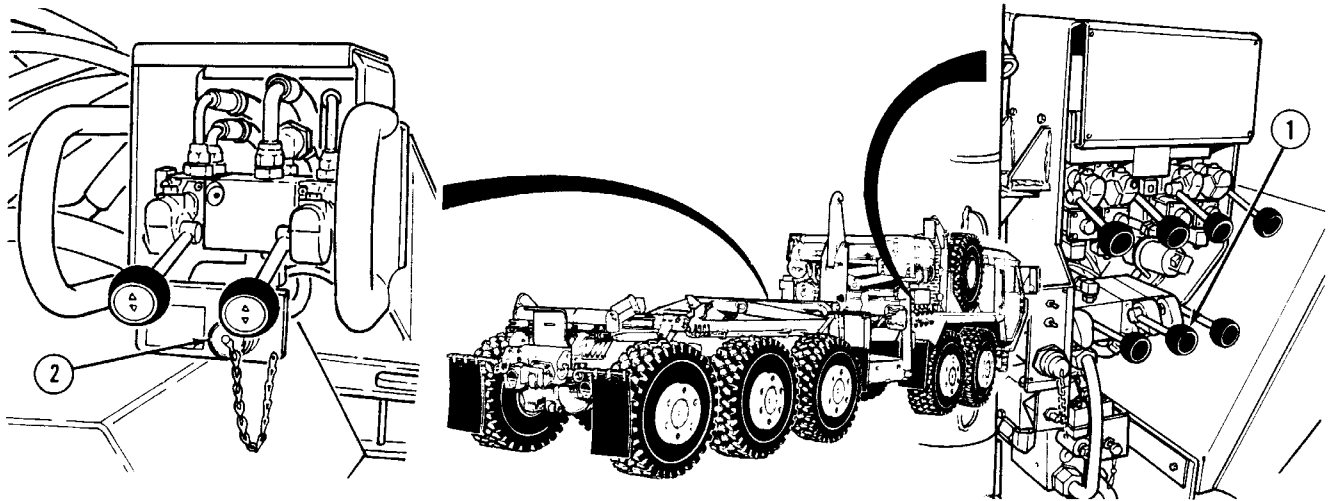

Figure 1-21. Fixed Controls
b. Fixed Controls. All crane controls and indicators (1) (Figure 1-21) are located at the crane position on the passenger side of the truck. Controls (2) on the driver's side will also operate the outriggers. The controls are accessible to the operator while standing on the ground. Control valves, both crane and outrigger, automatically return to the neutral position should the operator inadvertently or intentionally release the control.